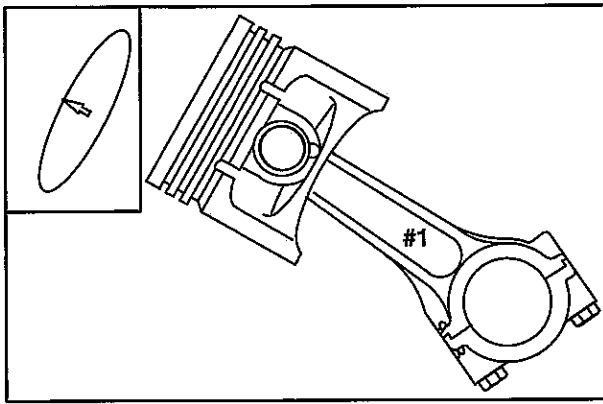

Fig. 8
1. Lubricate parts with engine oil. Assemble #1 piston to connecting rod, Fig. 8.
2. Arrow, notch or casting mark on piston must face flywheel side, inset Fig. 8.